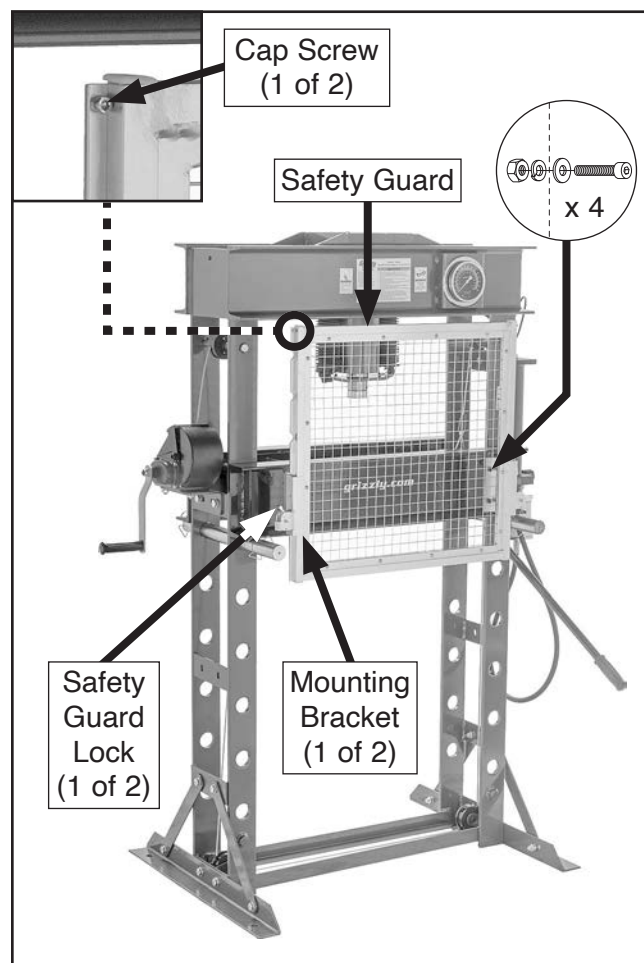

Figure 15. Safety guard installed on front of press bed.
24. Install (2) safety guard mounting brackets on front of press bed using (4) M8-1.25 x 30 cap screws, 8mm flat washers, 8mm lock washers, and M8-1.25 hex nuts (see **Figure 15**).
25. Rotate (2) safety guard locks outboard to release locks, then install safety guard (see **Figure 15**).